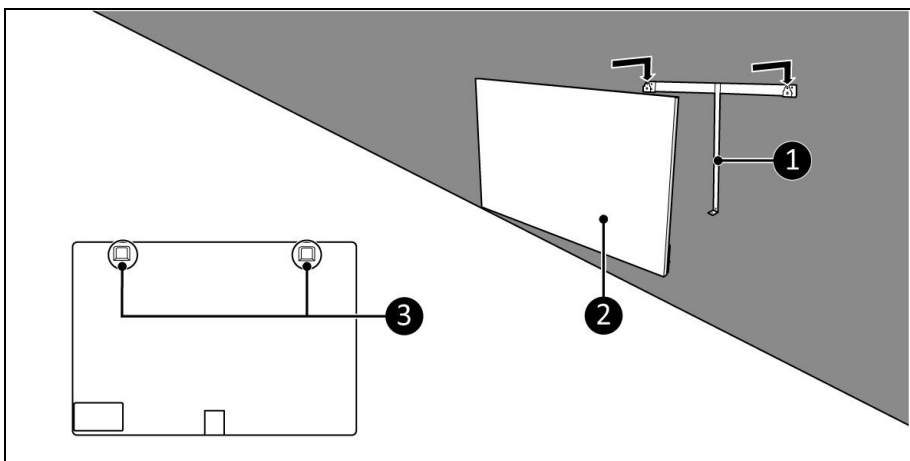

Figure 8
8. Place the device brackets (Figure 8, pos. 3) over the wall bracket (Figure 8, pos. 1).
9. Slide the device (Figure 8, pos. 2) into the openings of the wall bracket.